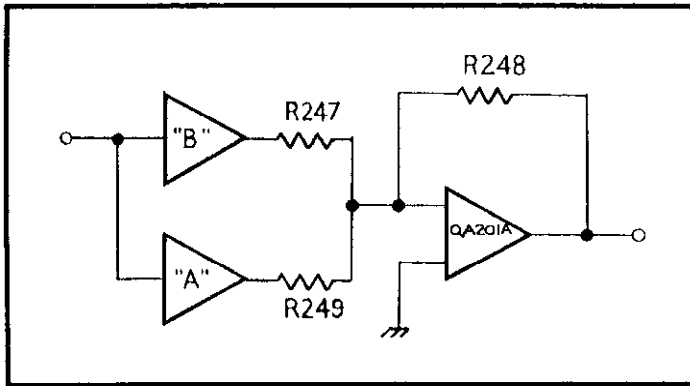

FIGURE 21. Single-ended Mode.
1. Single-Ended Mode. For this mode amplifiers "A" and "B" are connected as summing inputs to amplifier "C" as shown in Figure 21. The gain of amplifier "C" is determined by resistors R247, R248, and R249 as follows: